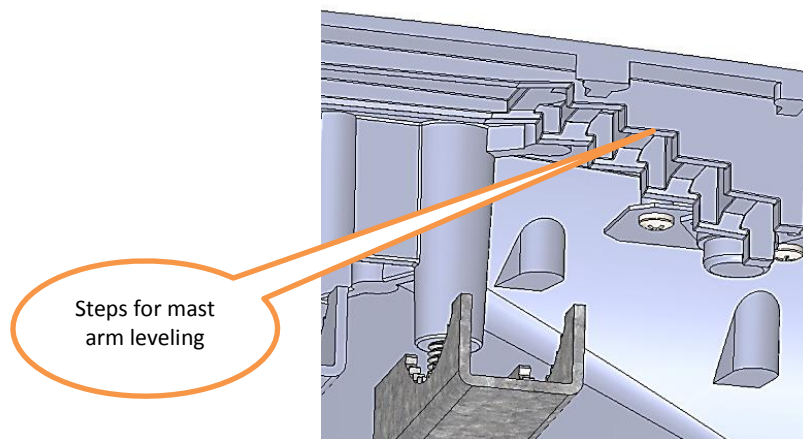
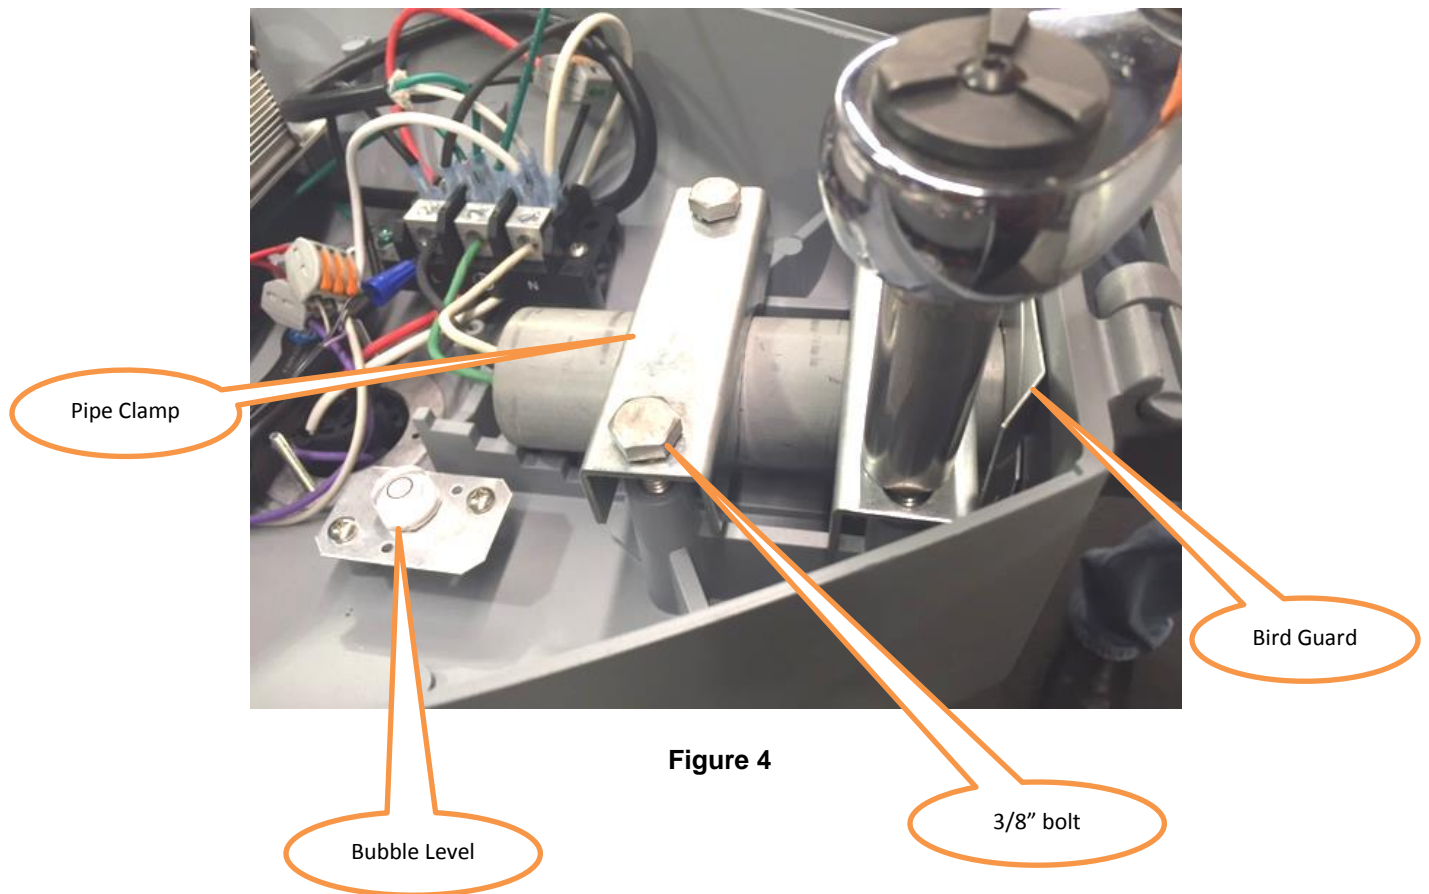

Figure 3
Figure 4
3. Level orientation of luminaire is required. Use steps to compensate, from +5° to -5°, for mast arms that are not level. (See Figure 3) Use the bubble level inside the electrical compartment to level the fixture. Tighten all 3/8" bolts to 25 ft-lbs to secure the luminaire to the mast arm. (See Figure 4)